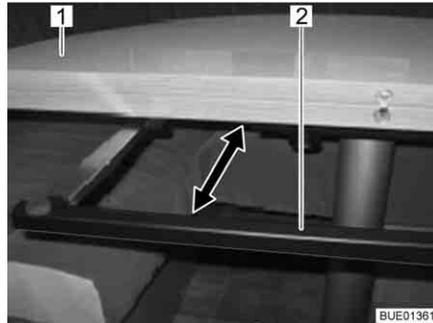

Fig. 112 Supporting frame
- Pull out the support frame (Fig. 112,2) below the table top (Fig. 112,1) to the end position.